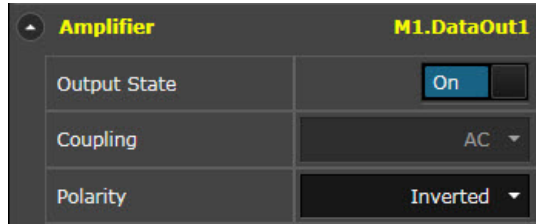

Figure 24 Enable pattern generator output
- 11 Enable the output of the pattern generator by clicking on the **Output State** button as shown in Figure 24 on page -54.